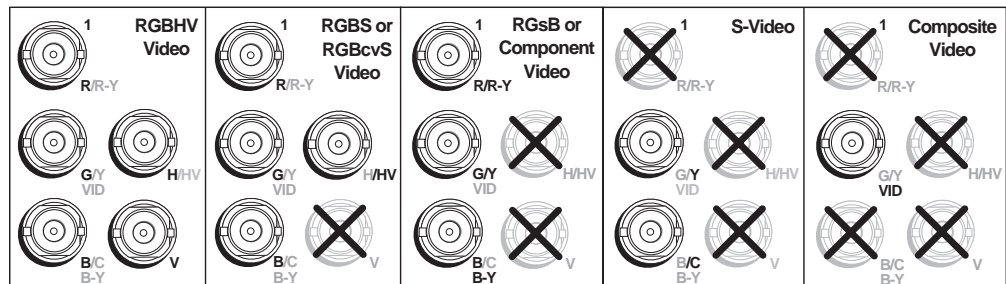

Figure 3. Connecting to RGB, Component HD, S-video, or Composite Video Inputs 1 through 4
- ① **BNC Inputs 1 through 4** — Plug RGB, high or standard definition component video, S-video, or composite video sources into these fully configurable BNC connectors, as shown in figure 3. Configure these connectors for the desired signal types via the WindoWall Console software.